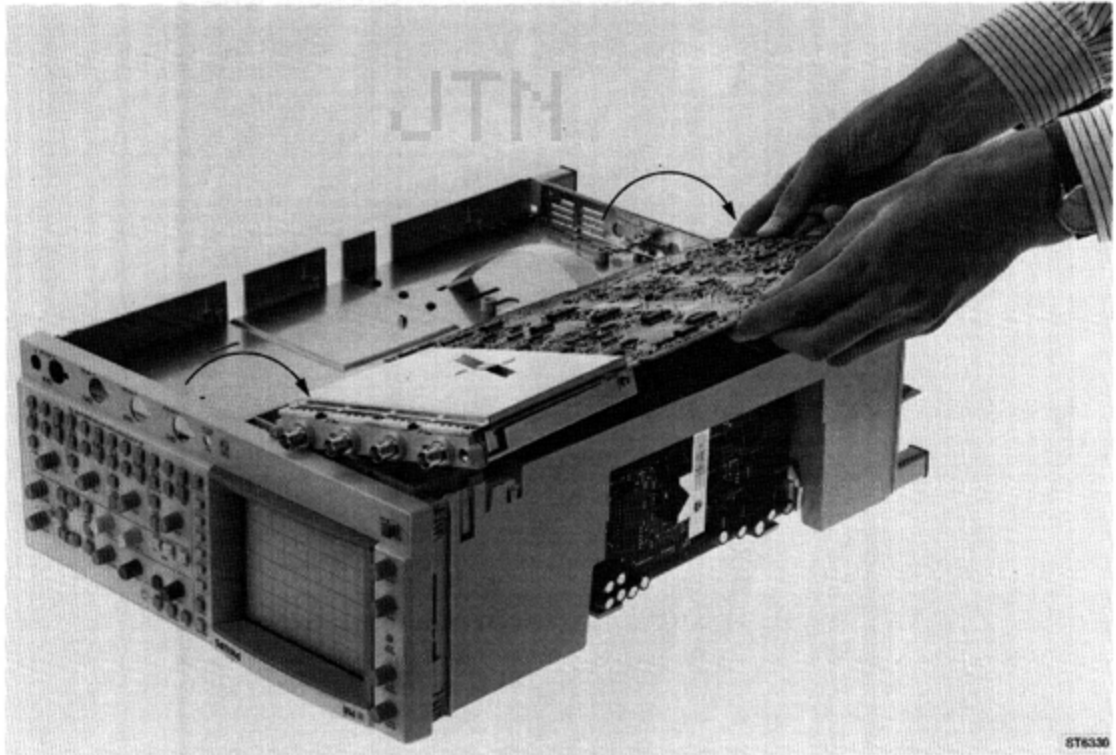

Figure 8.3 Signal unit in position to measure SMD component side
**NOTE:** The unit can be put now in an inclined position as shown in figure 8.3. Measuring on the SMD-component side in working condition is possible then. Measuring the output wires that lead to the X- and Y-deflection plates is possible with a 10 k $\Omega$  damping resistor between measuring point and probe tip. This avoids oscillations.